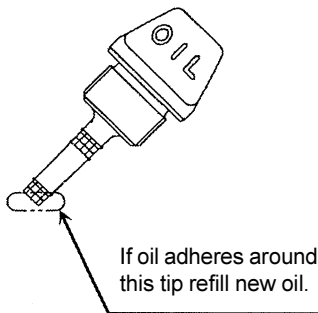
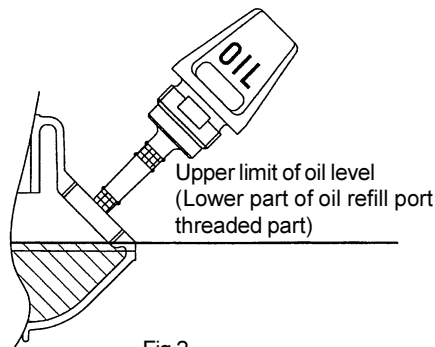

Fig.1
Fig.2
- While keeping the engine level, remove the oil gauge, and confirm that the oil is filled within the upper and lower limit marks. When the oil is in short in such a way that the oil gauge touches the oil only by its tip, in particular with the oil gauge remaining inserted in the crankcase without screwing-in (Fig. 1), refill new oil near the port (Fig. 2).
- (1) Keep the engine level, and detach the oil gauge.
- (2) Fill oil up to the edge of the oil refill port. (Refer to Fig.2 of the preceding page).